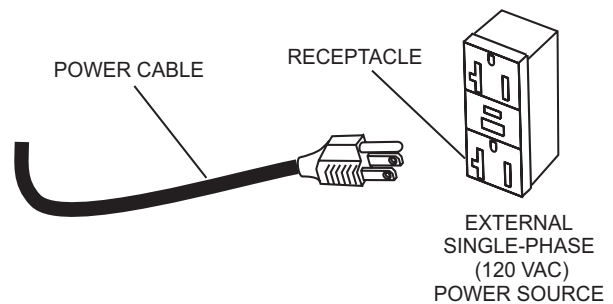

Figure 6. Applying 120 VAC Power
2. Once the generator has started, plug the AC power cord from the lamp into a GFCI receptacle (Figure 6) on the generator.
3. If using a power source (Figure 6) other than a portable generator, plug the AC power cord from the lamp into a 120 VAC, 60 Hz receptacle that is protected by a at least a 15 amp circuit breaker.